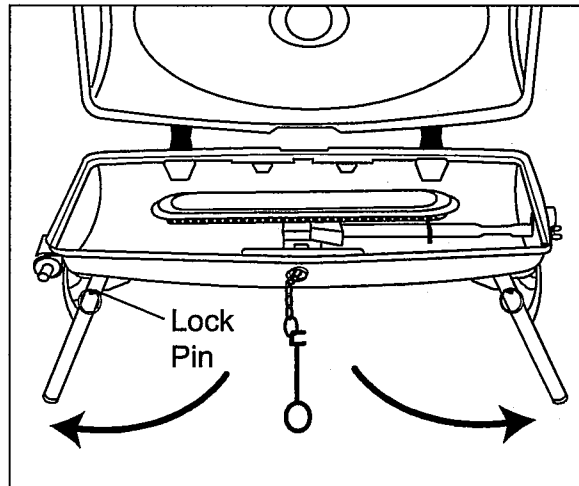

Figure 2
7. Close the Lid, pull out on the Lock Pin rings and swing the Legs out from beneath the Grill Body. The Lock Pins will lock into position with a "click". See Figure 2.